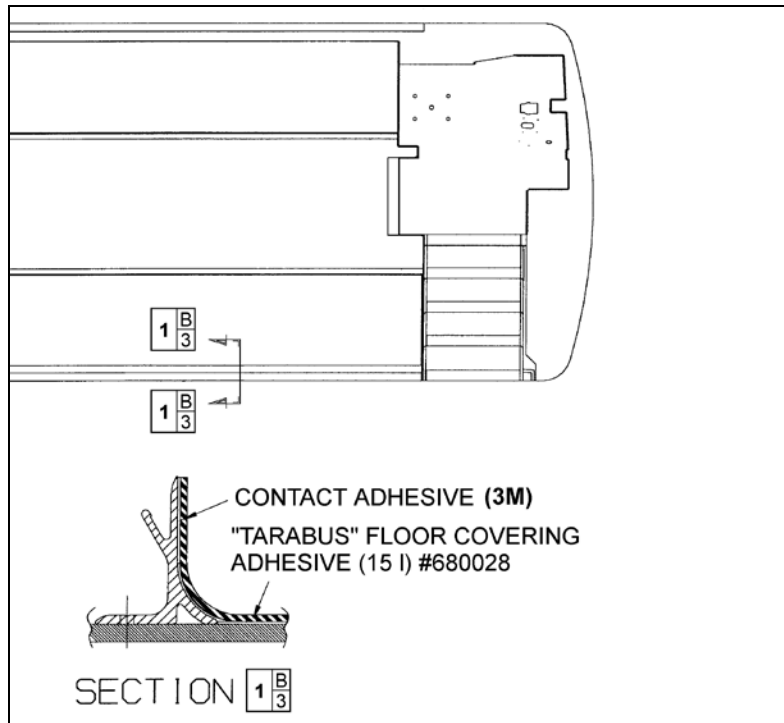

FIGURE 85: TARABUS FLOOR COVERING ADHESIVE APPLICATION 18640
6. Apply floor covering adhesive (680028) onto plywood using a serrated spreader with 1/8-inch serration. If required, apply contact adhesive (3M) (684655 or 684654) onto aluminum molding and also onto section of floor covering, which will be in contact with molding (refer to Figure 85).